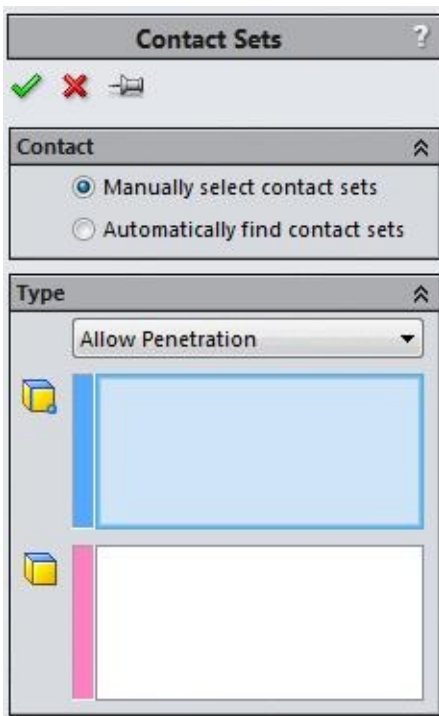

Figure-65. Options in Contact Sets PropertyManager on selecting Allow Penetration option
- Select the **Allow Penetration** option from the drop-down in the **Type** rollout. The options in the **PropertyManager** will be displayed as shown in Figure-65.